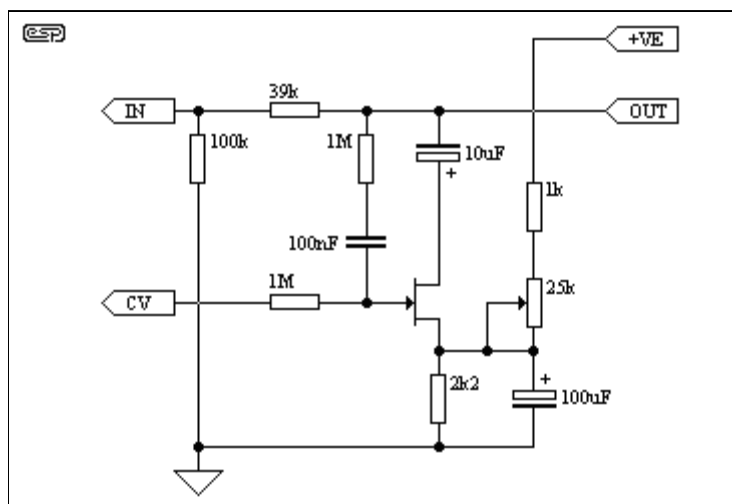

Figure 1 - "Conventional" VCA Using a JFET
The circuit devised by Phil Allison still has some input voltage limitations, since it is based on a FET. Junction FET VCAs also create considerable distortion, with the worst of it appearing when the signal is attenuated by 6dB. The common way to fix this problem is to apply 1/2 of the drain voltage to the gate, along with the control voltage. Figure 1 shows the conventional way this is done. The predominantly second harmonic distortion is converted by this technique, to become a very much reduced amount of third harmonic distortion. This is further reduced by ensuring that the signal voltage between drain and source is less than 100mV, but the exact voltage is dependent on the FET used.
The arrangement shown looks perfectly reasonable when you first see it, but closer examination reveals that the two 1M resistors form a voltage divider for the control voltage (CV), and this exists until the 100nF cap is charged. The maximum attack time is limited, with a time constant of 100ms as shown. Figure 1 is adapted (for comparative purposes only) from a published circuit from a well respected designer :-O and the circuit is only useful if large peaks in signal level are tolerable. If they are, a peak limiter is probably not needed anyway :-)
This circuit is a vast improvement on the conventional approach as shown in Figure 1. With that circuit, any attempt to make the attack time shorter than about 20ms creates nasty clicks in the signal, as the FET only gets half the initial control voltage during the time it takes to charge the distortion cancellation capacitor. As a result, the attenuation is greatly reduced during this critical period, and the transient is allowed through almost unaffected by the FET.